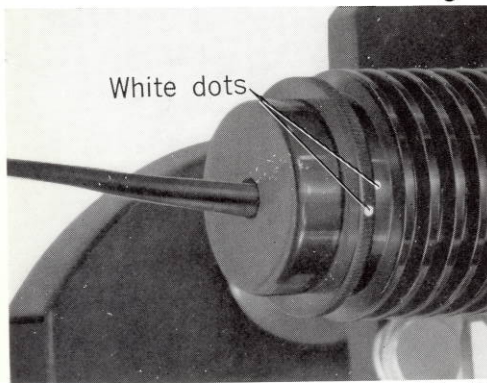
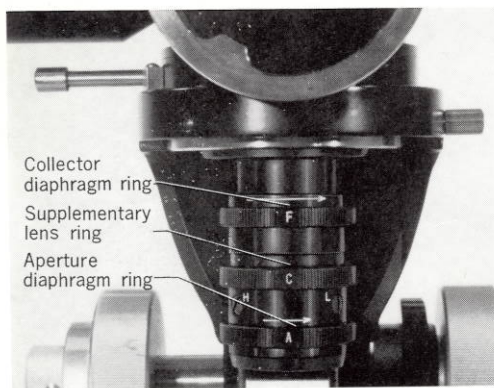

Fig. 24
Fig. 25
b) Turn the milled ring on the lamp housing so that the two white dots are lined up to each other. Take out the socket. (Fig. 24)
- If no uniform brightness is obtained, turn the supplementary lens ring (C). When a high power objective is used, turn the ring toward H and when a low power lens is used, turn it toward L.
- Then, turn the collector diaphragm (illumination viewfield diaphragm) ring (F) to fully open the diaphragm, thus the entire viewfield being illuminated.
- Turn the aperture diaphragm ring (A) to stop down the aperture until a clear image with no flare is attained. (Fig. 25)